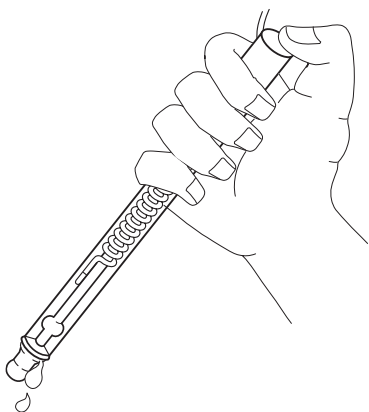

Figure 1
- a. Uncover the fill hole by removing the fill hole plug (save for storage) and empty the electrode by pressing down on the electrode cap. See **Figure 1**.